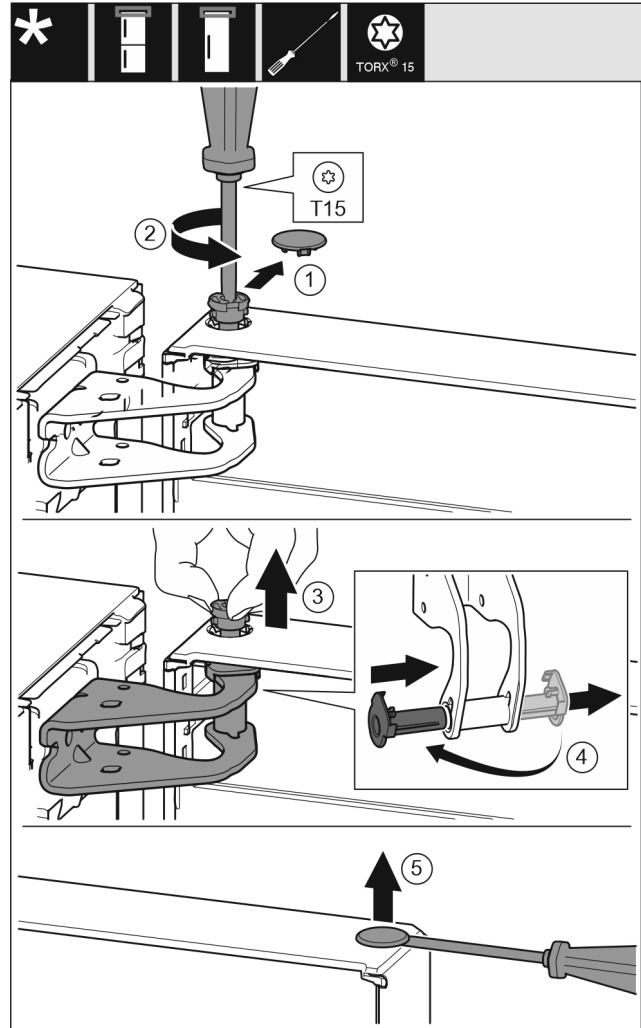

Fig. 13
- Carefully remove the protective cover. Fig. 13 (1)
- Loosen the bolts slightly with a T15 screwdriver. Fig. 13 (2)
- Hold the door and remove the bolts with your fingers. Fig. 13 (3)
- Pull the bearing bush out of the guide. Insert from the other side and latch into place. Fig. 13 (4)
- Carefully lift the plugs out of the door bearing bush with a slotted screwdriver and remove them. Fig. 13 (5)